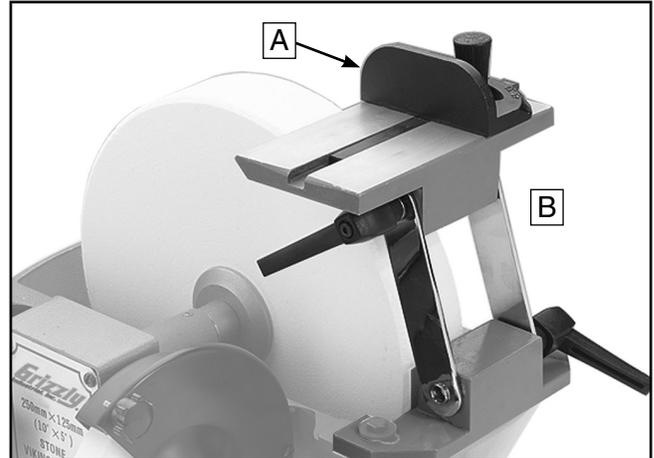

Figure 1. Model G8987.
2. Use these same hex bolts and washers to securely mount the Model G8987 tool rest as shown in **Figure 1**.
Inventory (Figure 1)